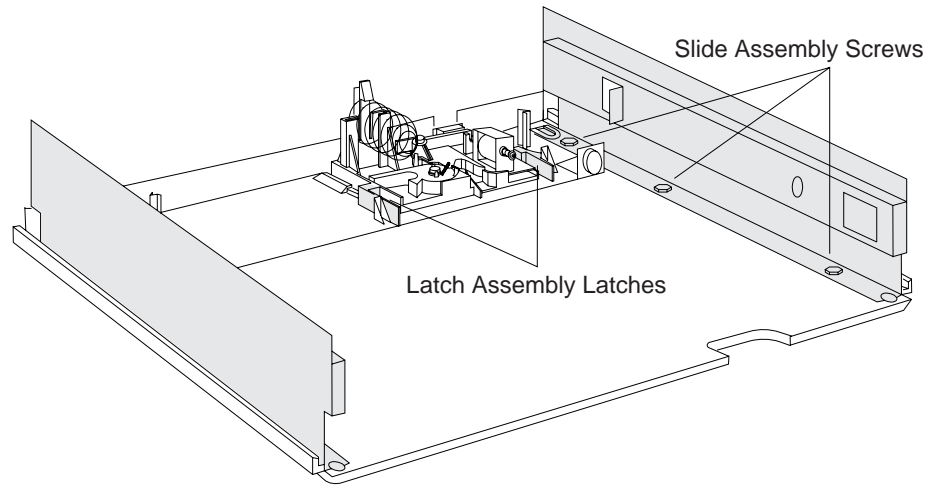

Figure 67. Removing cash-drawer slide assembly
4. Remove the three screws that secure the slide to the base and lift out the slide assembly, as shown in Figure 67 on page 81.
3. Reach in from the front and push the latch on each side of the latch assembly inward while pulling the assembly toward the front (see Figure 67 on page 81).